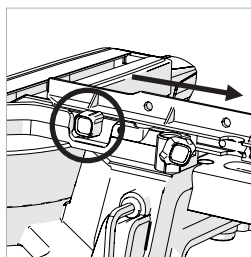

Fig. 28
- Loosen the thumbscrew. (Fig. 28)